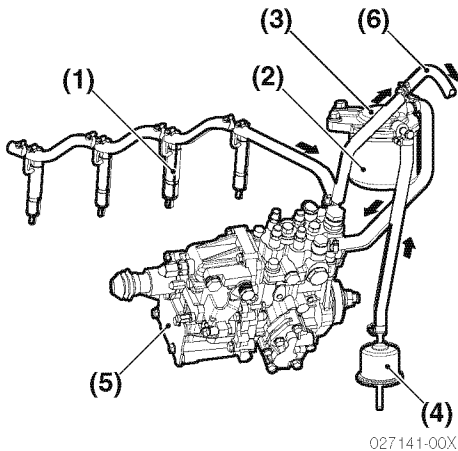

Figure 5
Figure 5 applies to both 3JH5E, 3JH5AE and 4JH5E.
3. To bleed air from the fuel filter, loosen the hose clamp on the return side fuel hose (**Figure 5, (4)**) at the T-joint. Remove the hose.